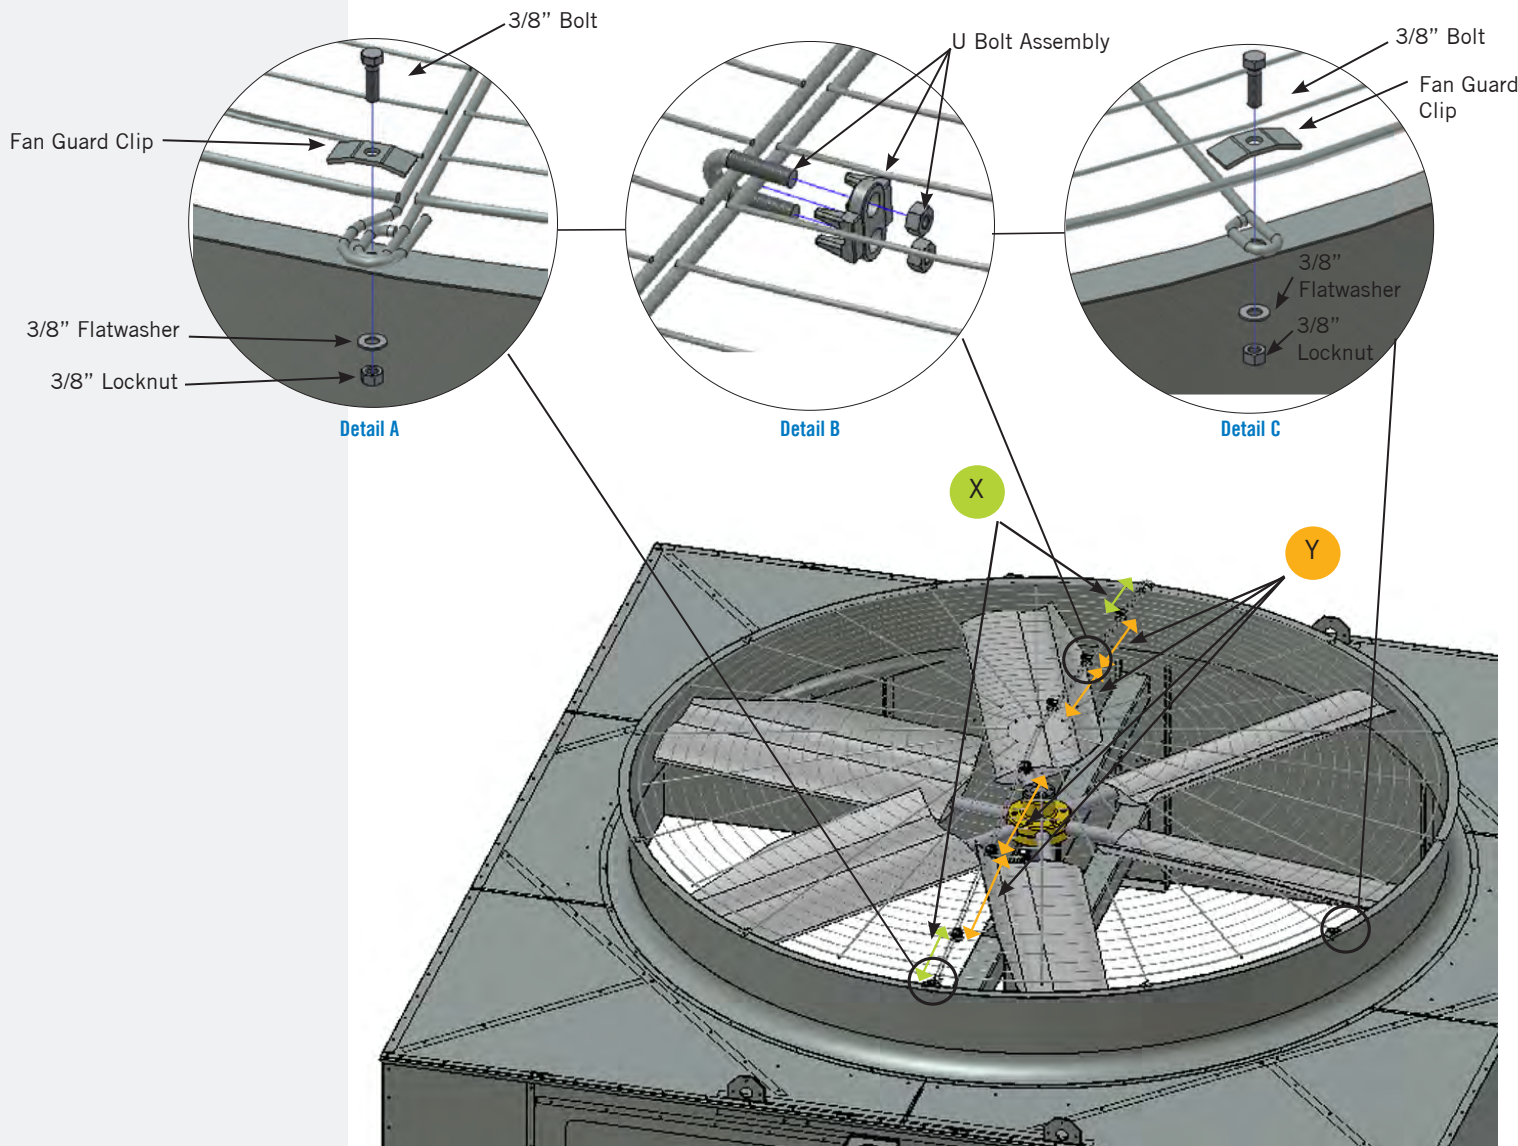

Figure 20. Two-Piece Fan Guard Assembly
1. Using six U-bolt assemblies, fasten the two halves of the fan guard together as illustrated in **Figure 20, Detail B**. Locate the U-bolt assemblies along the seam between the two guard halves per the X and Y dimension provided in **Table 2**, which are based on the diameter of the supplied fan.
3. Mount the fan guard to the unit as illustrated in **Figure 20, Detail A** for the ends of the seam where the two guard halves join together, and **Detail C** for all other locations around the fan guard perimeter.